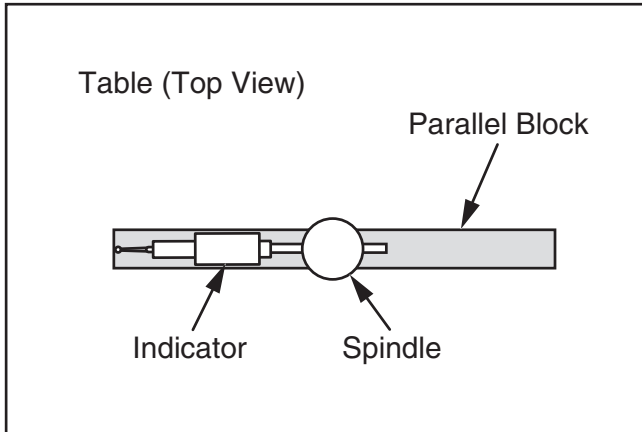

Figure 62. Parallel block and indicator positioned for the X-axis measurement (top view).
- To measure spindle alignment along X-axis, place parallel block directly under spindle and indicator across length of table, as illustrated in **Figure 62**.